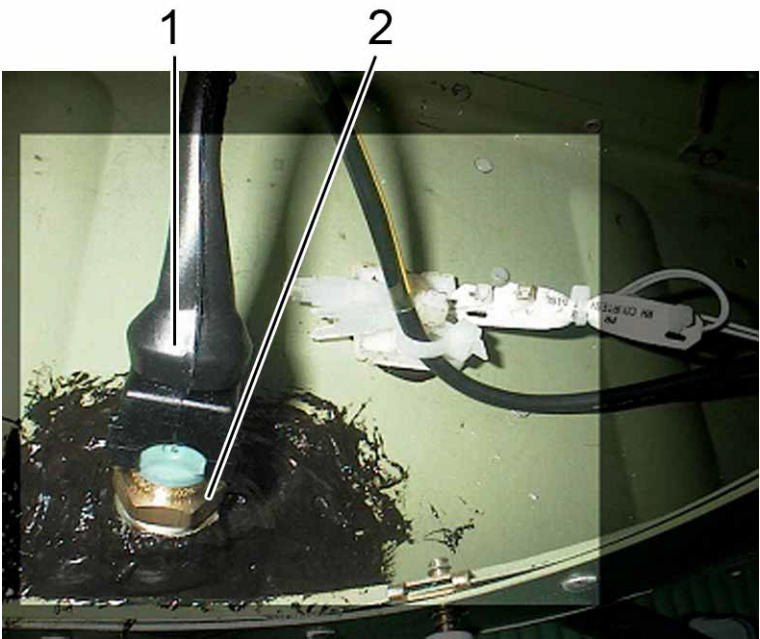

Fig. 28-13a Fuel Temperature Sensor C-172 R,S with TAE 125-01 installation
(2) Disconnect the connector of the fuel temperature sensor.
(3) Remove the fuel temperature sensor. See Fig. 28-13a.